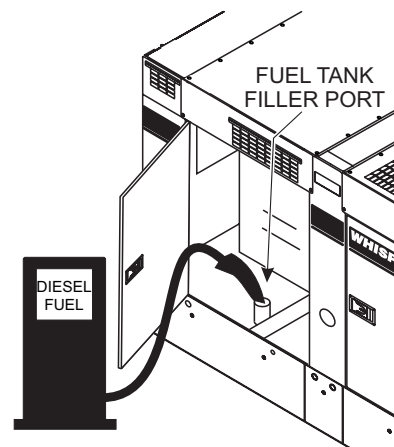

Figure 39. Fueling The Generator
2. Open the enclosure door, remove the fuel cap and fill the tank as shown in Figure 39.